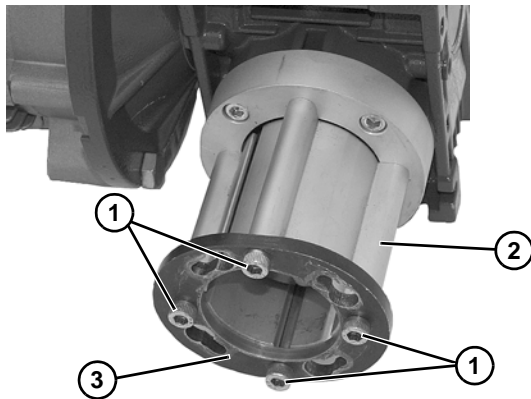

Figure 14
3. Remove the four (4) gearmotor coupling guard screws (**Figure 14, item 1**) and remove the gearmotor coupling guard (**Figure 14, item 2**) and mounting ring (**Figure 14, item 3**).
13. Install gearmotor coupling guard (Figure 14, item 2) and mounting ring (Figure 14, item 3) to gearmotor, and tighten screws (Figure 14, item 1) to 110 in-lb (12 N-m).